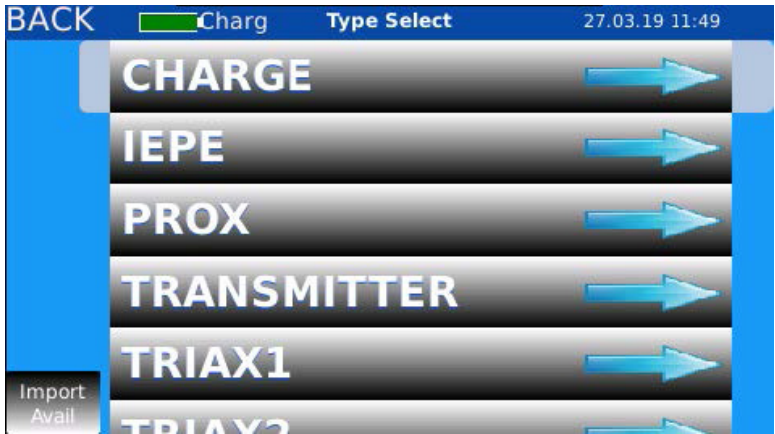

Figure 95. "Import Avail" appears in the bottom-left corner
- 5. An **Import Avail** button will appear in the bottom-left corner of the screen, indicating that an import is available from the USB drive. Select the **Import Avail** button to import the custom sensor(s) (Figure 95).